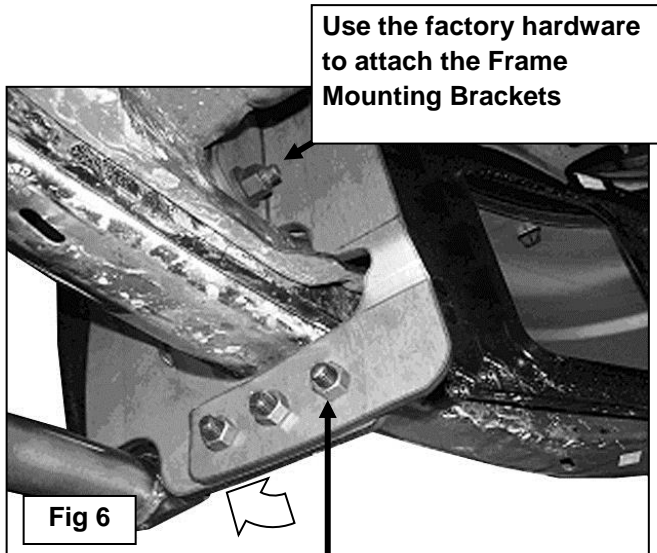
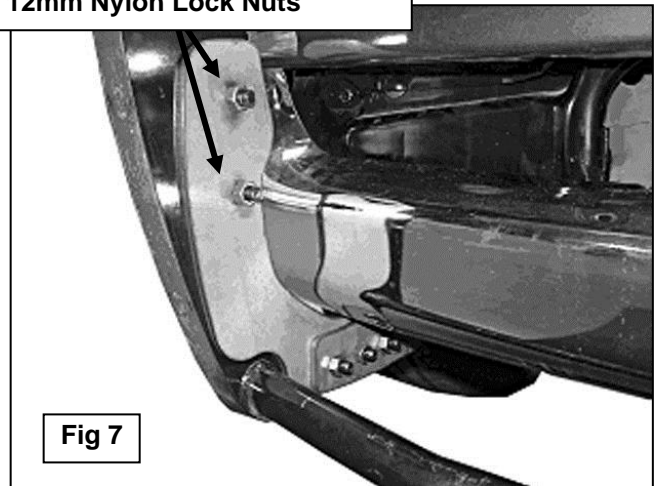

Fig 6
Fig 7
7. Raise the Mounting Brackets on the Grille Guard up to the outside of the Frame Mounting Brackets. Insert (1) 12-1.75mm x 35mm Hex Head Bolt, (2) 12mm 32mm OD x 3mm Flat Washers and (1)12mm Nylon Lock Nut into each of the rear-most mounting holes to act as a hinge. With assistance, rotate the Grille Guard up to line up with the Top Brackets and insert (4) 12-1.75mm x 35mm Hex Head Bolts, (8) 12mm x 32mm OD x 3mm Flat Washers and (4)12mm Nylon Lock Nuts into the remaining holes in the Mounting Brackets, **(Figure 6)**. Use (2) 8mm x 20mm Button Head Allen Bolts, (4) 8mm x 22mm OD x 1.5mm Flat Washers and (2) 8mm Nylon Lock Nuts to fasten the Top Bracket to the Grille Guard, **(Figure 7)**. **IMPORTANT:** Slowly close the hood to check for clearance and fit of the Grille Guard and brackets. Adjust the Brackets as necessary then snug but do not tighten all of the hardware. Due to factory build variances in vehicles, it may be necessary to adjust the height of the front bumper to provide additional clearance for the Grille Guard Top Brackets. Loosen the bumper mounting hardware and adjust as necessary.